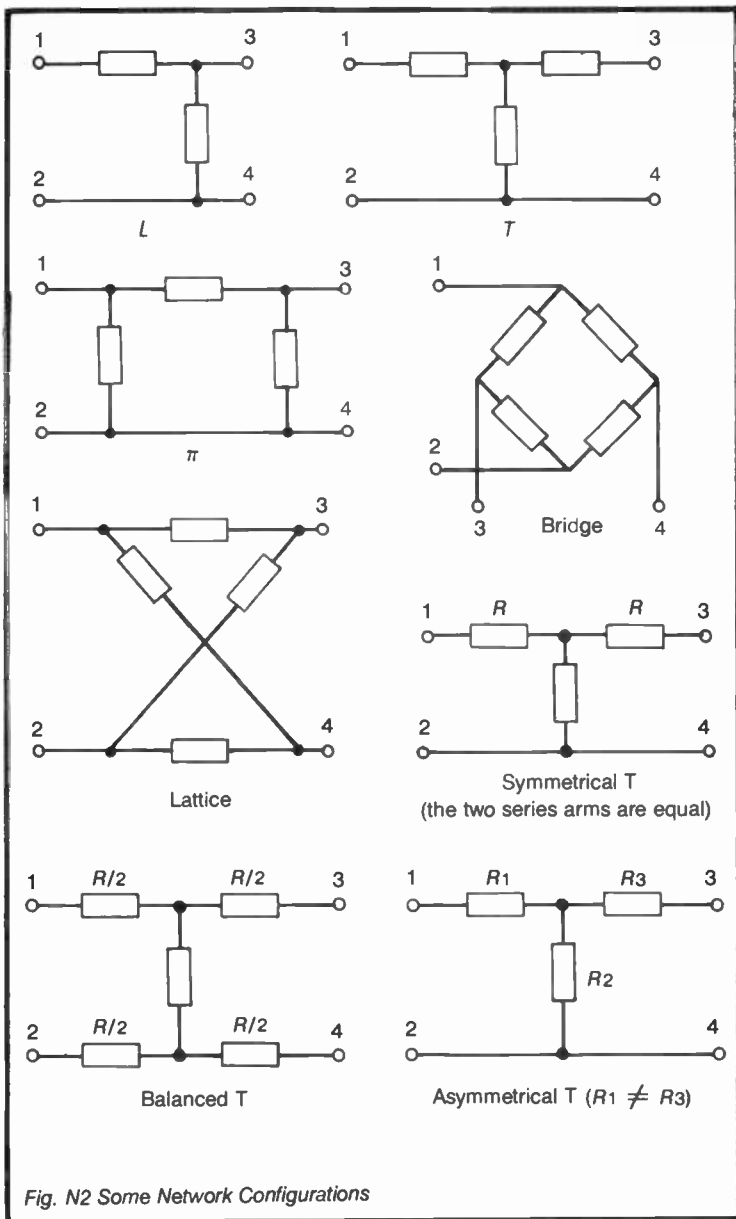

Fig. N2 Some Network Configurations
**MESH** In a network it is a group of elements which are connected as a closed loop. The three resistors of the  $\pi$  network of Figure N2 comprise a single mesh, also the four resistors shown as a bridge – see Network.
be by (i) component(s), e.g. resistance-capacitance or (ii) by shape on a drawing, e.g. L, T,  $\pi$ , bridge, lattice [these are illustrated by Fig.N2]. Networks designed as attenuators are frequently also known as *pads* and are available in *symmetrical* or *asymmetrical* form as shown in the figure. The network may also be *balanced* as shown for the T. *Unbalanced* is the term used when the series elements are in one wire only of the through circuit as in the L, T and  $\pi$  configurations shown in the figure. In this case terminals 2 or 4 are usually connected to the chassis or common of the equipment in which the network is used.